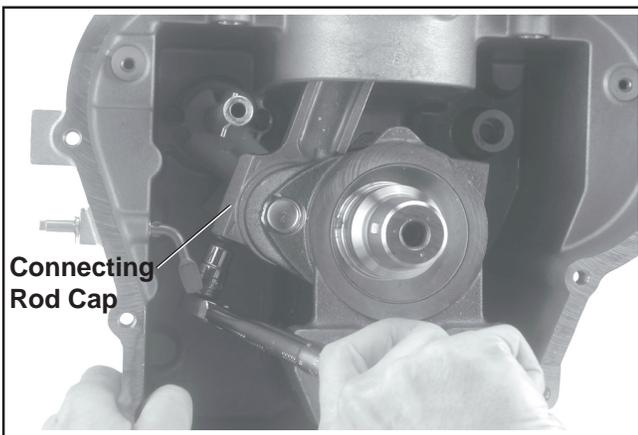

Figure 10-19. Torquing Connecting Rod Fasteners.
4. Install the hex. flange screws and torque in 2 increments, first to **5.5 N-m (50 in. lb.)**, finally to **11.5 N-m (100 in. lb.)**. See Figure 10-19.